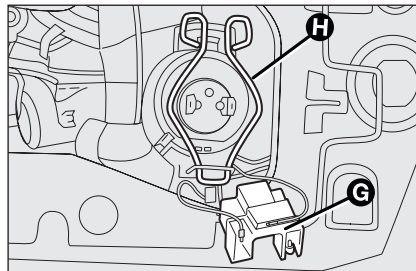

fig. 25
- remove connector **G-fig. 25**;